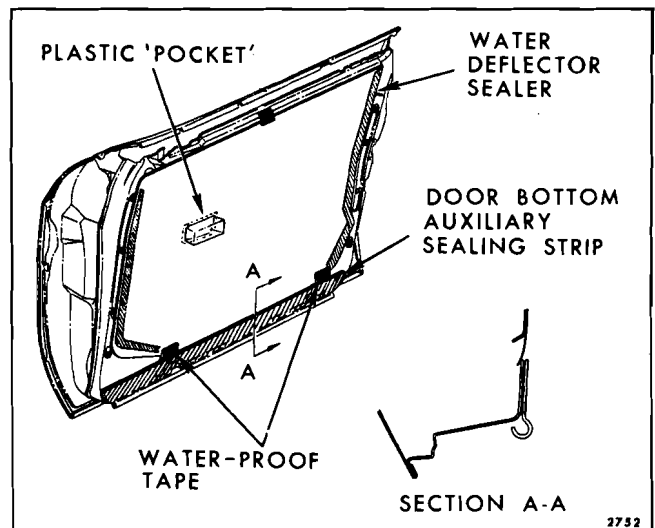

Fig. 6-6—Door Inner Panel Sealing
The door bottom auxiliary sealing strip is secured to the door inner panel with weatherstrip adhesive. The strip is installed after water deflector installation and prior to trim installation. As shown in section "A", Figure 6-6, the upper edge of the strip is aligned with the water deflector drain slot. The rolled, semi-bulbular section of the sealing strip extends down below the door trim pad when the trim is installed and fills the opening between the door and door sill plate.
application of waterproof sealing tape at front and rear lower corners. Whenever work is performed on front or rear doors where the water deflector has been disturbed, the deflector must be properly sealed and taped to the inner panel to prevent waterleaks (Fig. 6-6). For service sealing, body caulking compound is recommended if additional sealing material is required.
4. When seal has been broken down both sides of deflector, carefully remove tape from inner panel at lower corners of water deflector (Fig. 6-6). Disengage water deflector from inner panel drain slot and remove deflector. On styles so equipped, it will be necessary to partially remove door bottom auxiliary sealing strip to permit removal of tape at bottom of deflector (Fig. 6-6).
2. If a new deflector is to be installed, use old deflector as a template. On styles where deflector has small individual plastic "pockets", transfer "pockets" from old to new deflector (Fig. 6-6). Use waterproof body tape or black weatherstrip adhesive to form a watertight seal completely around "pocket". Seal on opposite side from which "pocket" deflector protrudes (dotted line, Fig. 6-6).